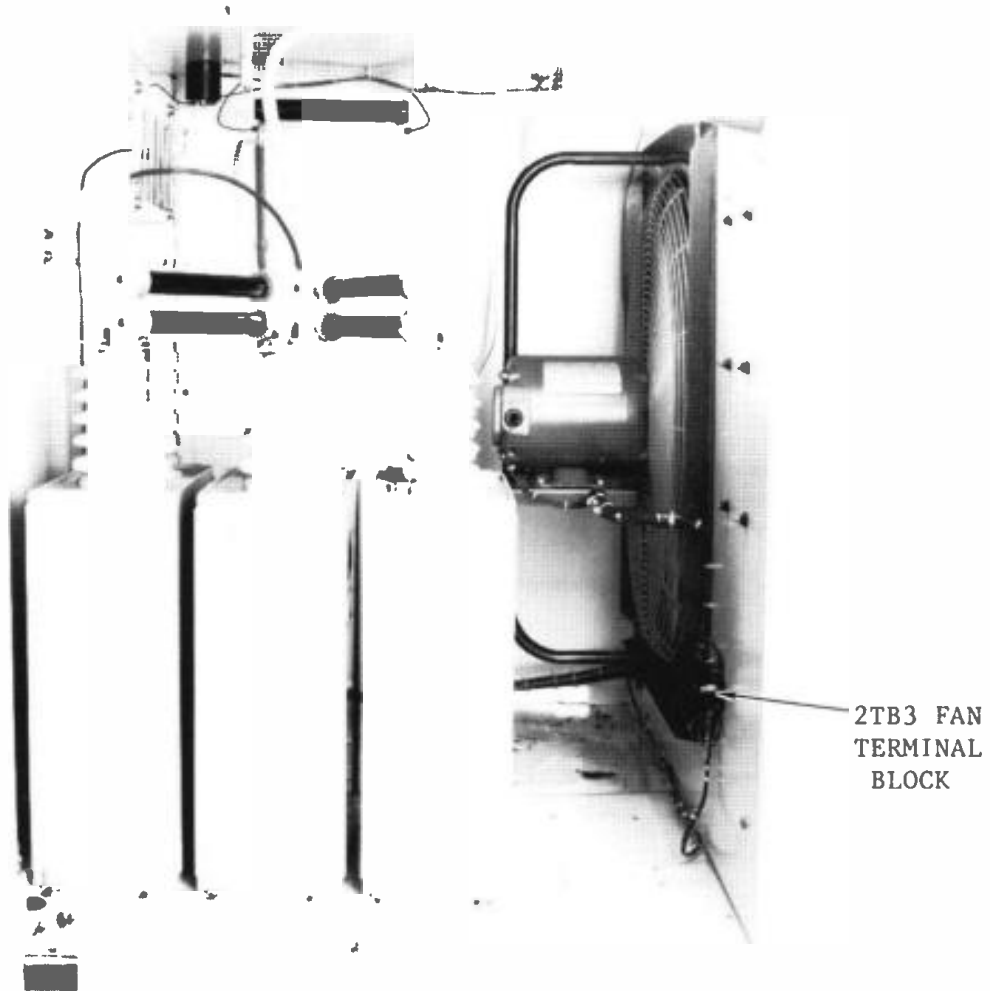

Figure 2-23. Cabinet 2 Lower Left Rear
4. If the fan in Cabinet 2 has reversed rotation, interchange any two wires on fan terminal block 2TB3. Refer to figure 2-23 for the location of terminal block 2TB3.